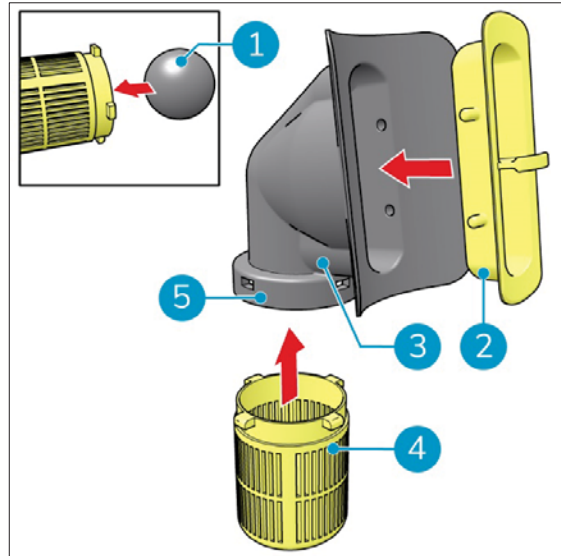

Figure 32
8. Place the floating ball in the float ball housing (Figure 32, pos 1).
9. Press the float ball housing (Figure 32, pos 4) into the rubber housing (Figure 32, pos 3). Make sure that the 4 nocks of the float ball housing fit into the holes in the rubber ring (Figure 32, pos 5).
10. Press the support frame (Figure 32, pos 2) in the rubber housing (Figure 32, pos 3). Make sure that the 4 nocks fit into the holes of the rubber housing.